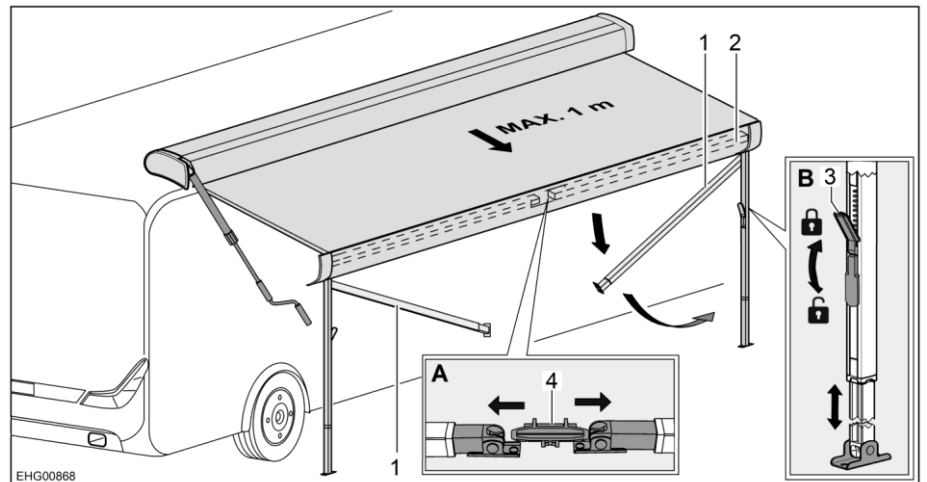

Fig. 46 Preparing support legs
- Release support legs (Fig. 46,1) from holder (Fig. 46,4) in the front bar (Fig. 46,2). In order to do this, apply slight outward pressure on the support legs (Fig. 46,A).
- Release the locks (Fig. 46,3) of the support legs. In order to do this, fold the catch lever downwards.
- Pull lower part of the support legs out to the desired length (Fig. 46,B).
- Close the locks (Fig. 46,3) of the support legs. In order to do this, fold the catch lever upwards.